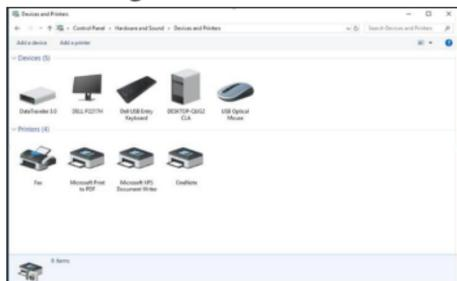

Figure 12
1. Navigate to the **Control Panel** screen and select the **Devices and Printers** icon. (Figure 12)